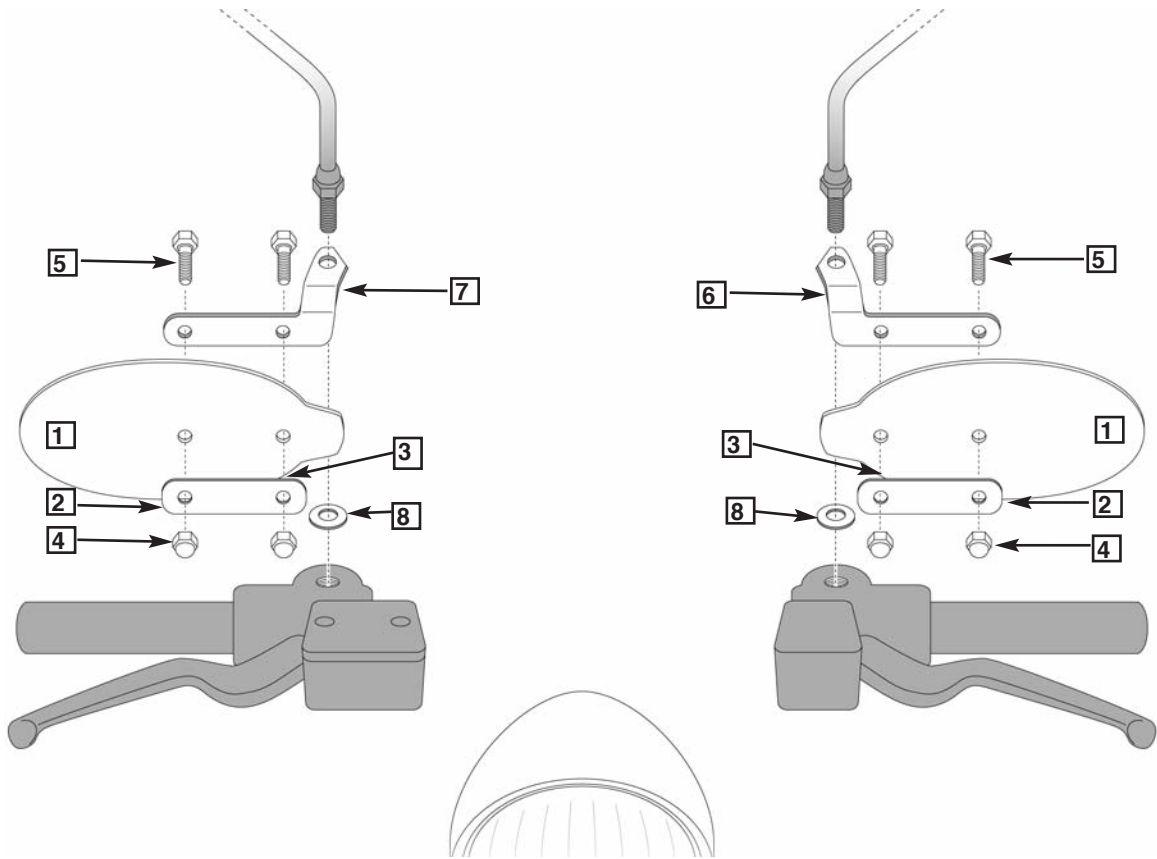

Figure 1
Assemble the Hand Deflector plastic to the Right and Left brackets as shown in Figure 1. Insert the Screws from the INSIDE of the Shield. Place a neoprene washer (3) between the outside of the plastic and the outside plate. Place the Outside Plate (2) over the Screws and secure with the Nuts (4). Tighten until snug, do not over tighten. **(7/16" wrench and Screwdriver) Figure 1**